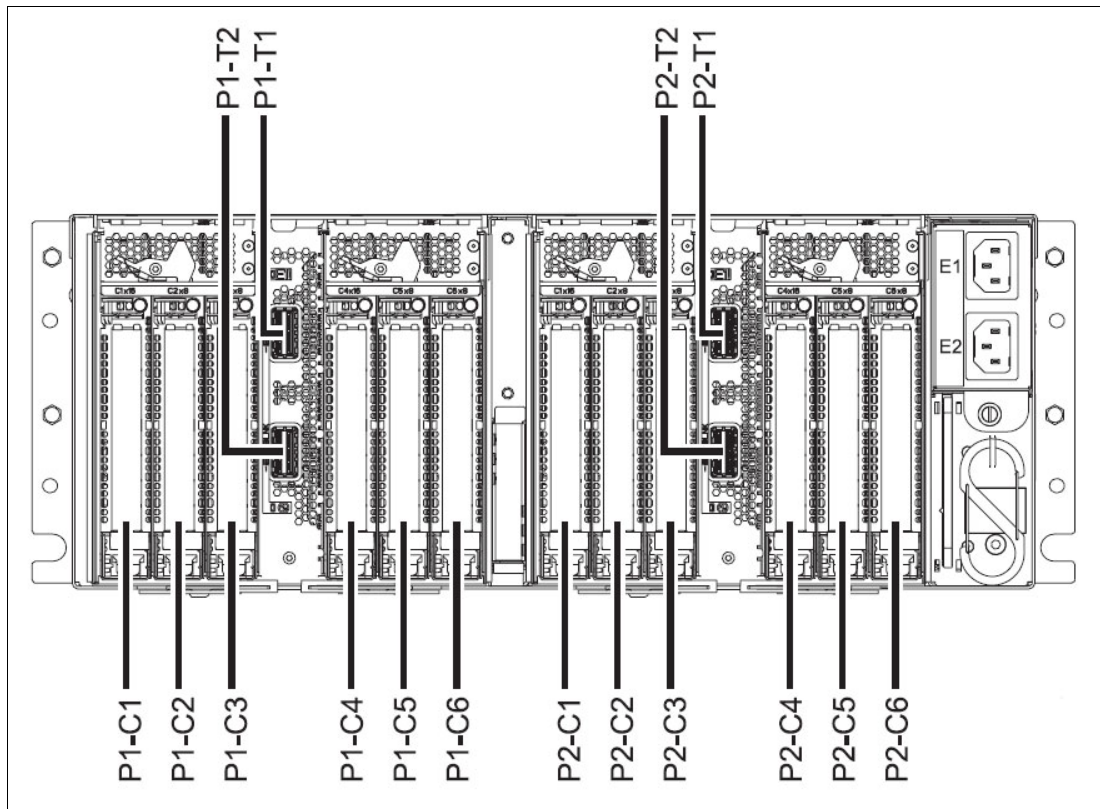

Figure 2-24 Connector locations for the PCIe Gen3 I/O Expansion Drawer
Figure 2-24 shows connector locations for the PCIe Gen3 I/O Expansion Drawer.
a. For information about how the slot numbers that are listed relate to physical location codes, see Figure 2-24 on page 91.